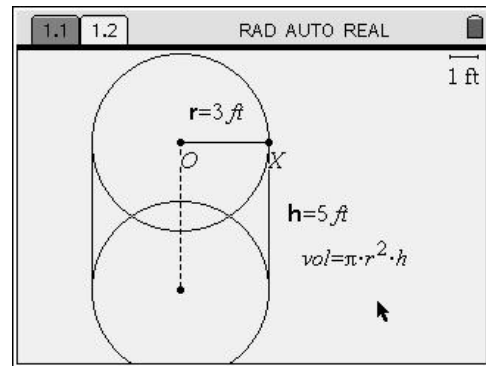

Figure 20
20. Add a text box to enter the volume formula. Press MENU 1 5 for Menu, 1:Actions, 5:Text. Move the I-beam to where you would like the formula and press ENTER . Type $\text{vol}=\pi \cdot r^2 \cdot h$ and press ENTER . (Figure 20) Press ESC to put the text box tool away.